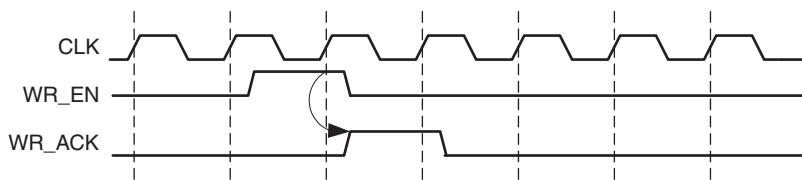

Figure 3-35: Latency 0 Timing
**Note:** Latency is defined as the number of clock edges after a read or write operation occur before the signal is updated. Example: if latency is 0, that means that the signal is updated at the clock edge in which the operation occurred, as shown in Figure 3-35 in which `wr_ack` is getting updated in which `wr_en` is high.